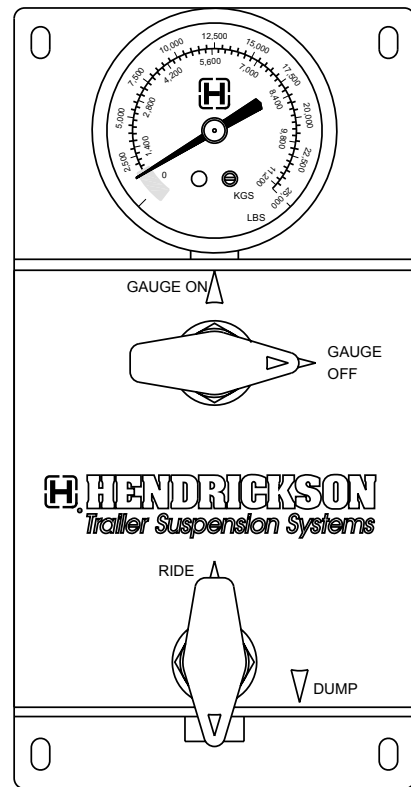

Figure 3. Ride valve to manual DUMP position
1. Rotate the lower ball valve clockwise to the DUMP position (Figure 3).